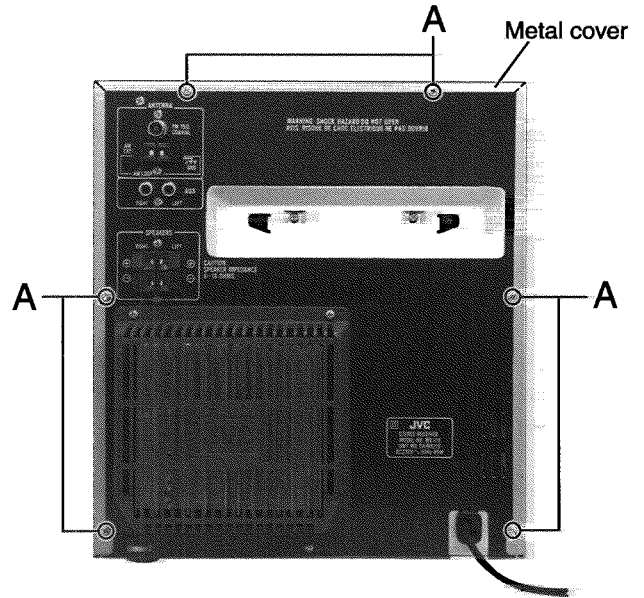

Fig.1
■ Removing the Metal Cover(see Fig.1 to 3)